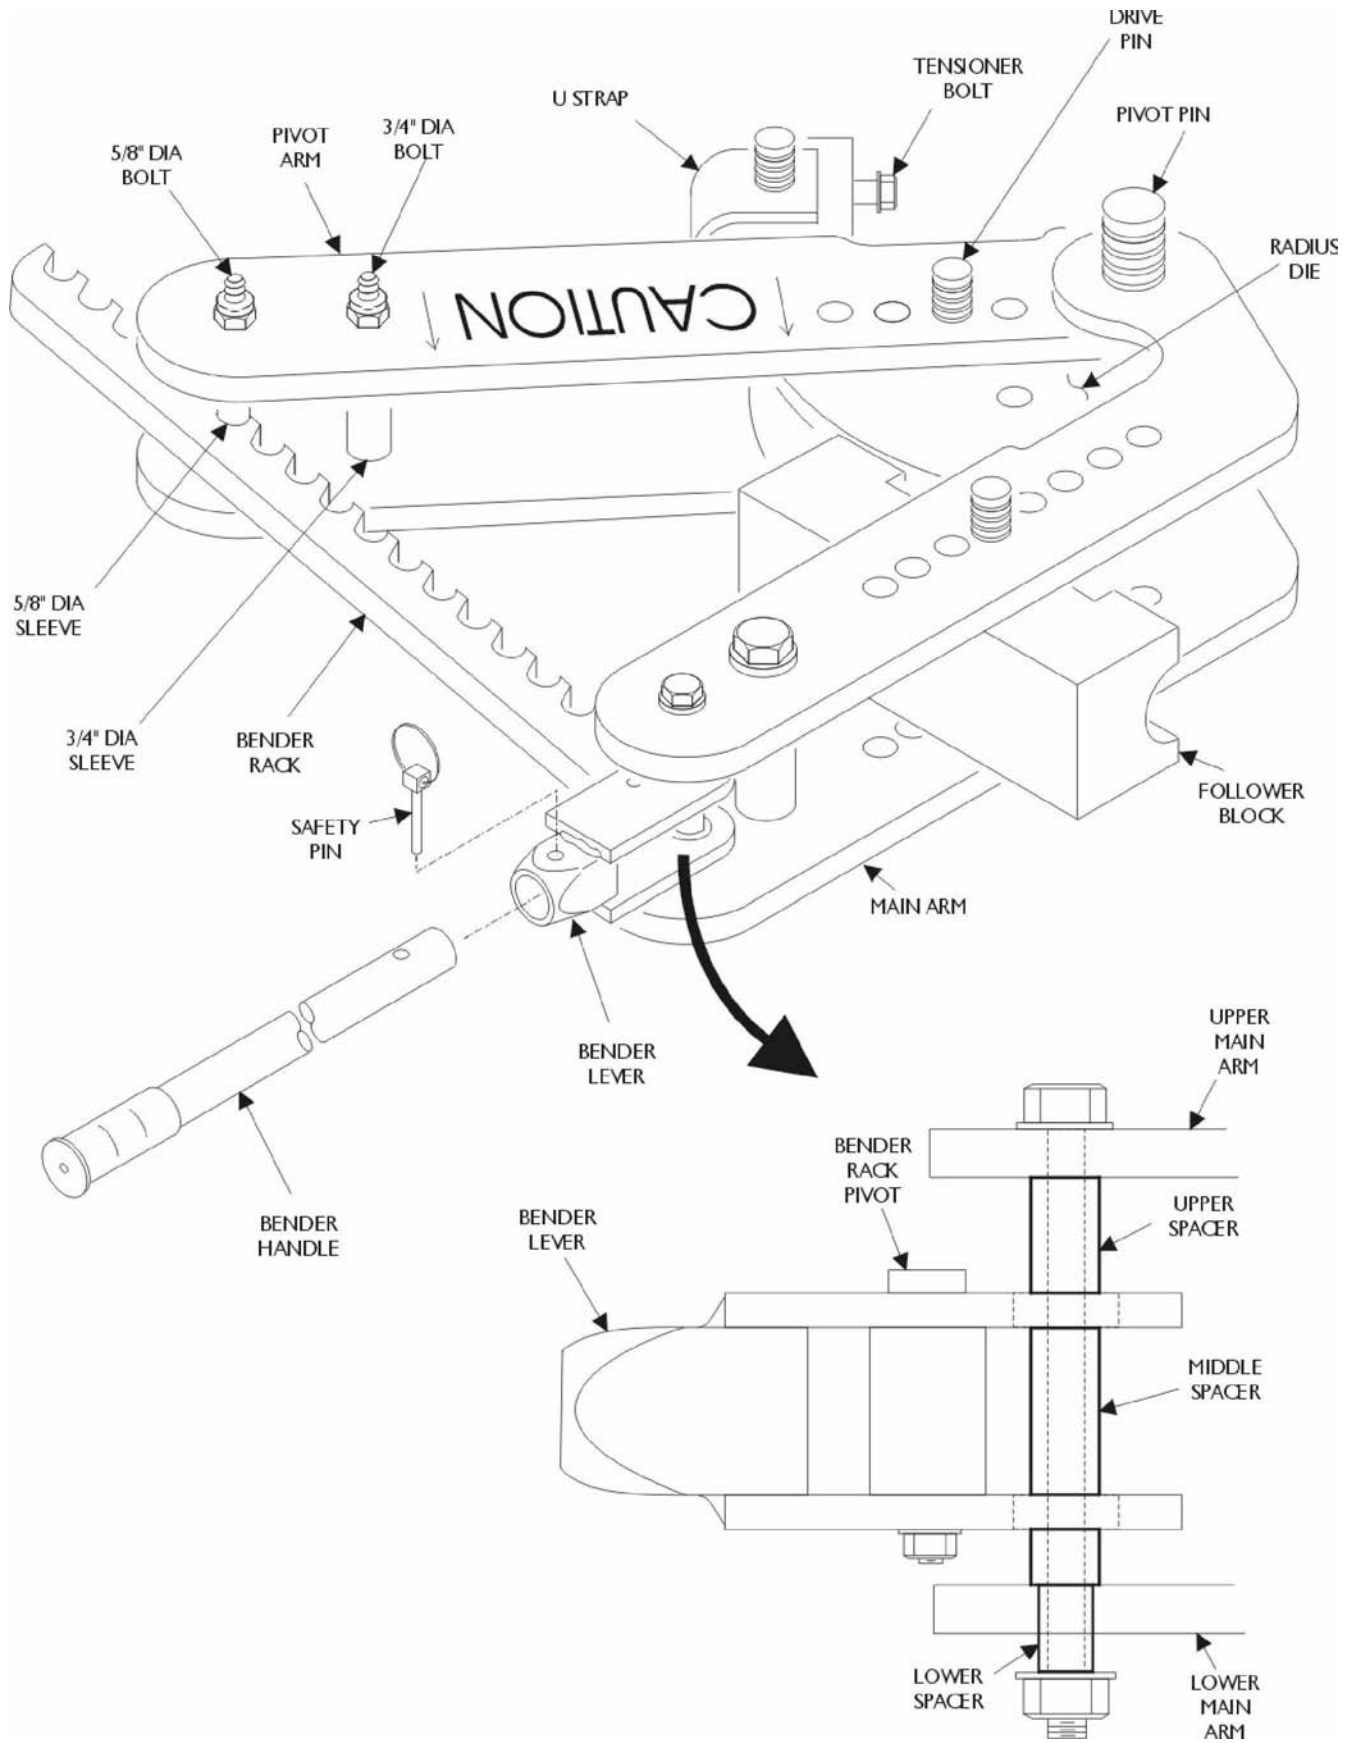

Figure 1. Bender overall view.
1. Figure 1 is an overall view of the manual bender and a detail of the bender head.